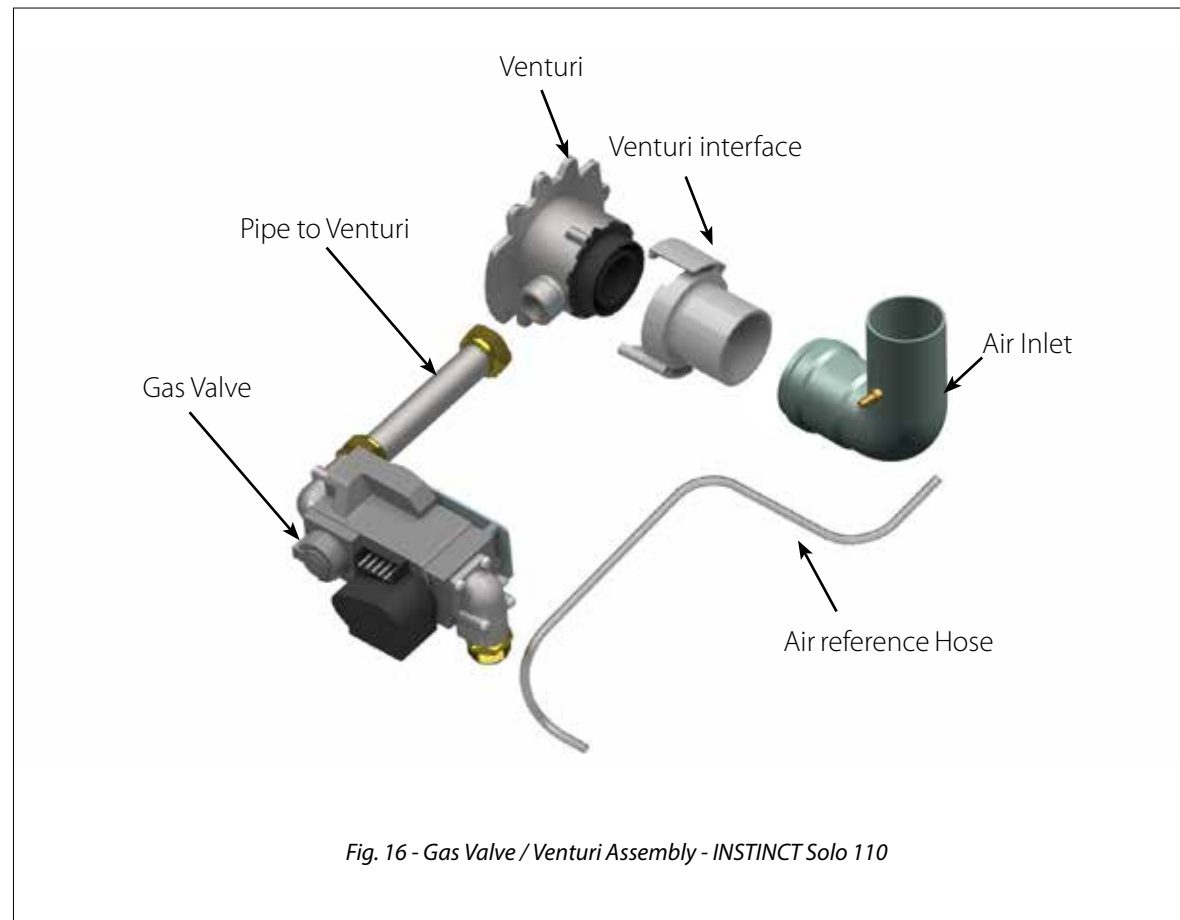
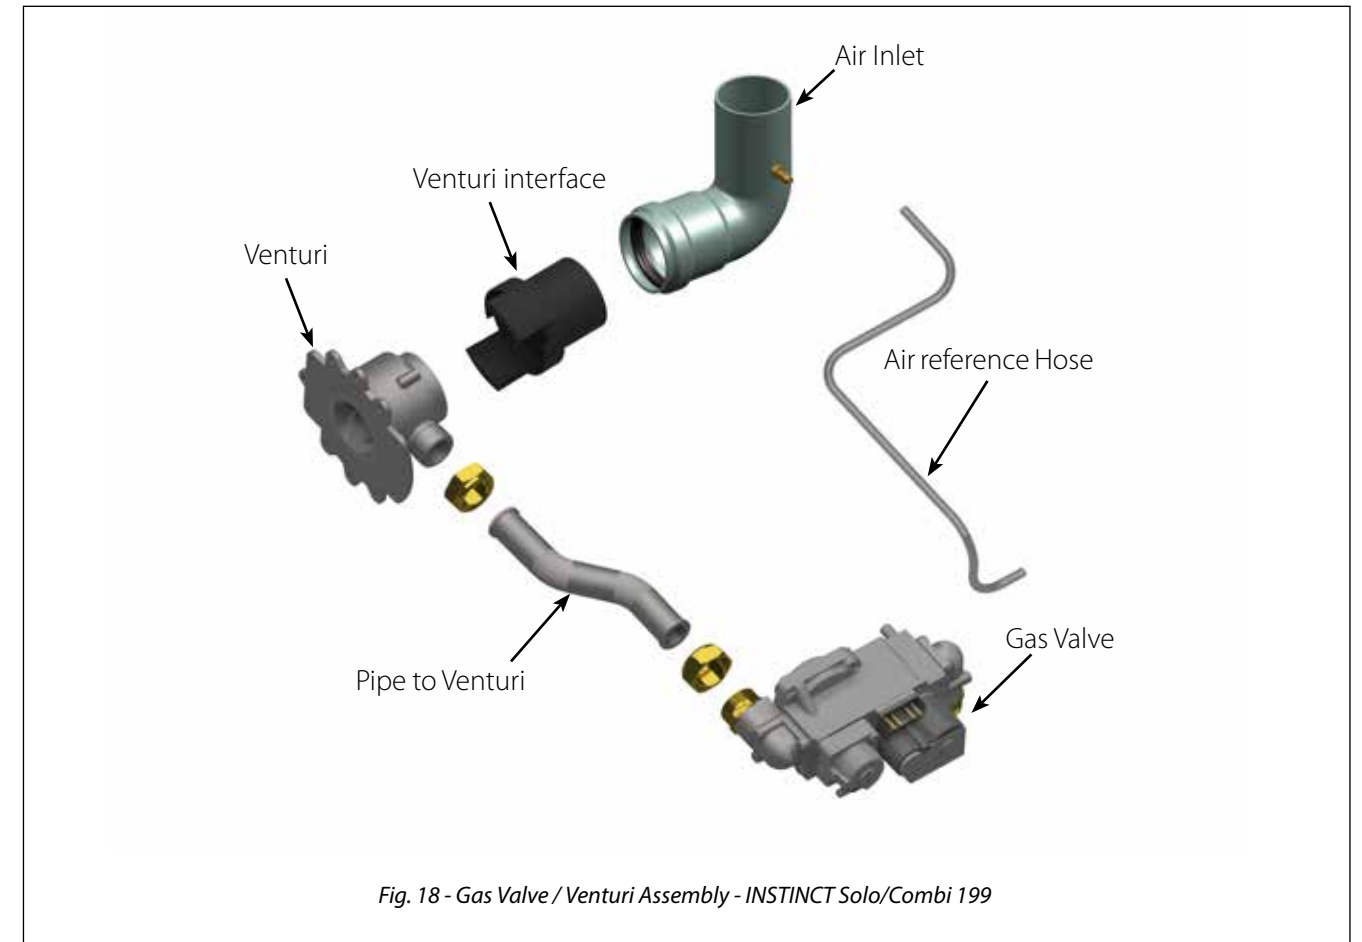
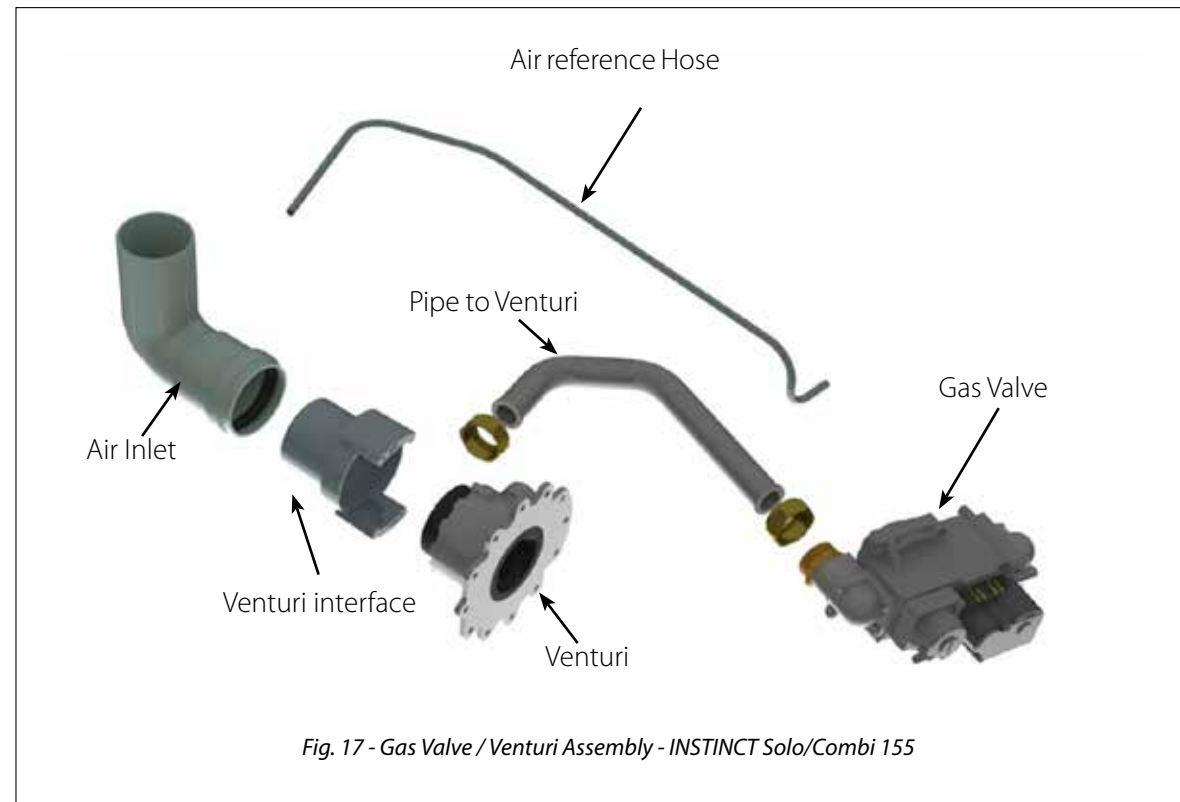

Fig. 16 - Gas Valve / Venturi Assembly - INSTINCT Solo 110
Fig. 18 - Gas Valve / Venturi Assembly - INSTINCT Solo/Combi 199
Fig. 17 - Gas Valve / Venturi Assembly - INSTINCT Solo/Combi 155
- Prior to start up, ensure the unit is set to fire propane. Check the rating label for the type of fuel. Check the venturi for propane conversion label. If there is a conflict or doubt on the burner configuration, remove the venturi and check for proper propane gas orifice sizing on venturi labeling. Refer to *Table 3 below* for orifice sizes. See *Fig. 16, Fig. 17 & Fig. 18* for venturi location. Refer to Propane Conversion Instructions for proper removal and replacement of the venturi.
- The circulator connections used will depend on the systems piping layout. See Fig. 16 on page 32 through Fig. 11 on page 21 for common system piping applications and associated circulator wiring. Consult the Fig. 10 on page 20 and the INSTINCT CTRLMax Control Supplement for additional options.